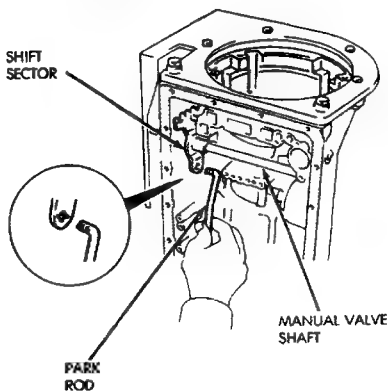

Fig. 37 Removing/Installing Park Rod
- (3) Remove park rod from manual valve shaft sector (Fig. 37).
- (4) Remove park rod.